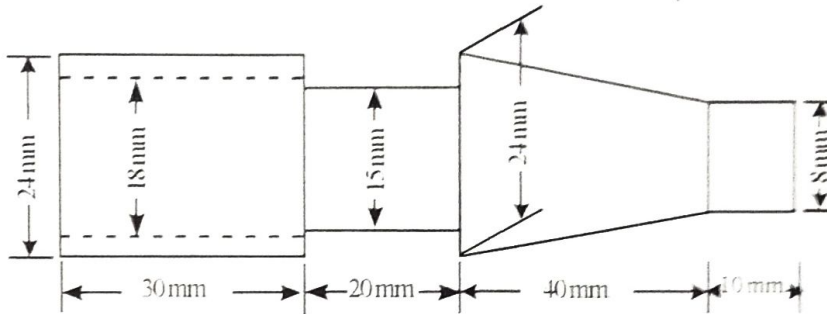

Fig. 1
1. Prepare the turning job using lathe as per the drawing shown in Fig.1.